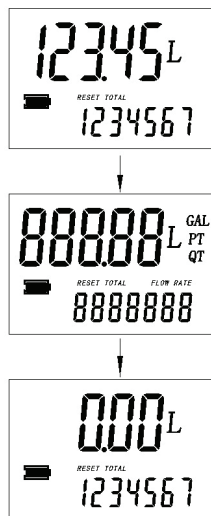

Fig. 4
• **Reset the present total (See Fig. 4)**